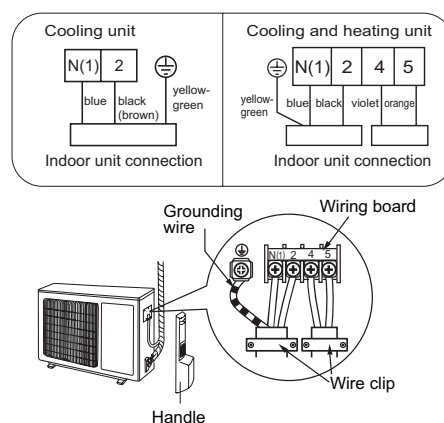

Fig.23
- (1) Remove the wire clip; connect the power connection wire and signal control wire to the wiring terminal according to the color; fix them with screws.(As show in Fig.23)